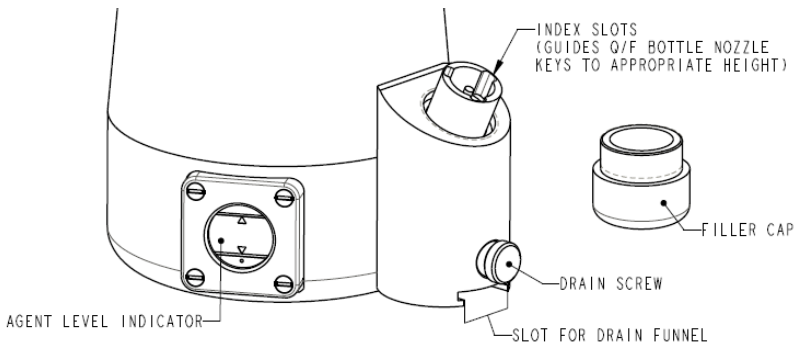

Figure 4 Filling a Quick Fill Filler Vaporiser
2. Remove the filler cap by turning it counter-clockwise and insert the bottle nozzle into the filler port. Make sure that the bottle filler nozzle keys are aligned with the index slots in the filler port, as illustrated in Fig. 4.